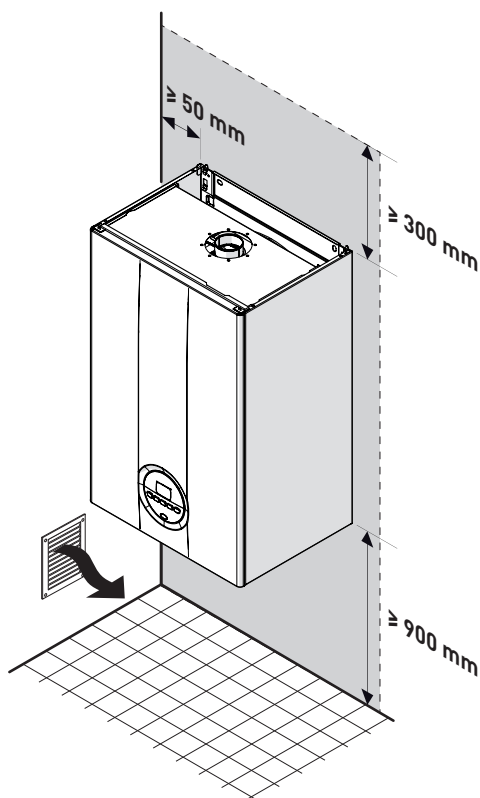

Fig. 10
- Remember to consider the space needed in order to access the safety/adjustment devices and to carry out maintenance interventions (see Fig. 10).